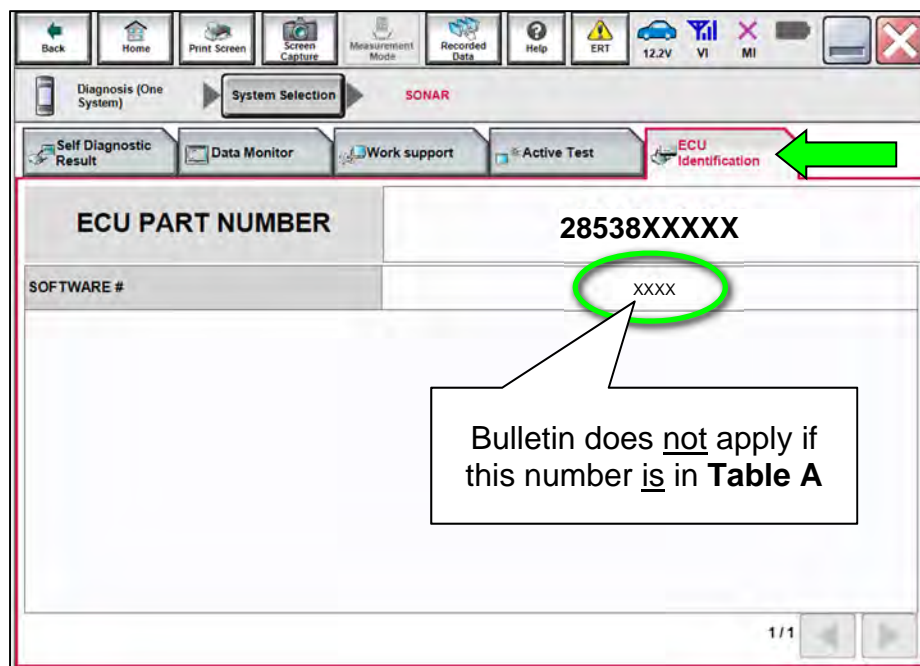

Figure 4
16. Confirm the current **SOFTWARE #** (Figure 4). See **Table A** (below) for model specific **SOFTWARE #**.